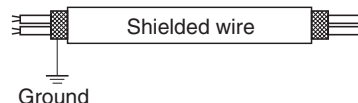

Fig. 1-109
- In case of using shielded wires for inter-unit control wiring, ground the shield on one side. (Fig. 1-109) Otherwise misoperation because of electrical noise may occur.